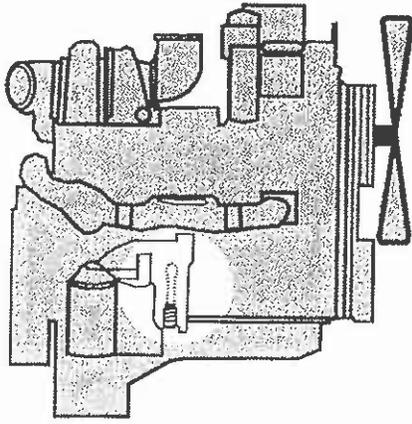

Figure 1
2. **For IH V800:** Remove drain plug and 1" NPT reducer located at bottom of oil cooler bonnet on right side of engine (see Figure 1 on back side of this sheet).